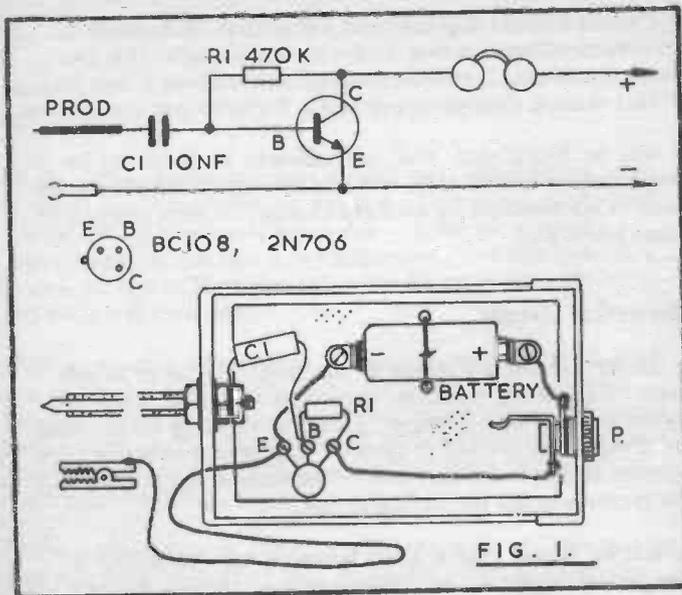

FIG. 1.
The Signal Tracer in Fig. 1 is an example of this. The main item here is the transistor, which has emitter (E), base (B) and collector (C) wires. For the transistors shown, these wires come from the base as in the diagram, which is of the underside of the transistor. (Emitter, base and collector wires may be in different positions in other transistors.) It will be seen that the emitter E is connected to negative at the battery, and to a clip on a length of flexible wire.
It is clear, from Fig. 1, how the theoretical circuit is made up as a practical piece of equipment, with C1, R1, transistor, phones and battery connected together in the way required.
This locates and amplifies audio (sound) signals which may be present in a circuit. Construction is most easily carried out in a small plastic case (Fig. 1). An insulated board about 1½ x 2 inch (or to suit the case) has three small bolts to secure emitter, base and collector leads of the transistor. Bolts also hold two small brackets, which press on the negative and positive ends of the 9v battery. String or elastic through holes in the board helps to secure the battery.
Battery and external leads are generally of flexible wire. Positive and negative battery clips, with leads already attached, are available for transistor radio and similar batteries. Elsewhere it may be convenient to arrange contacts as in Fig. 1, or to twist wires to the battery tags.